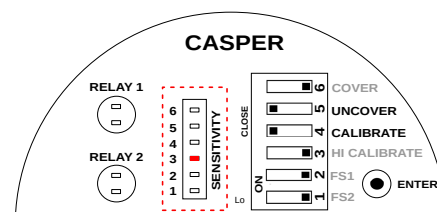

Figure 31: Sensitivity Bar Display
- The Sensitivity Bar Display will indicate the current sensitivity value. As can be seen in the Figure 31, the value been shown here is 3.